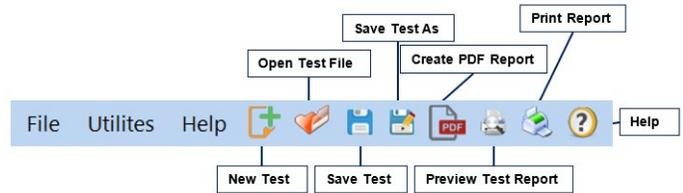

Figure 3: Toolbar
3. Eject the USB containing installation files and insert the USB security key. Open the Direct/Residual Shear Data Acquisition Software. Click **Help** along the toolbar (Figure 3) then select **Activation** from the drop-down menu. Enter the provided license number, USB ID, and activation code. The software will run normally for 30 days before this information is required to continue use. Activation information can be entered at any point within the first 30 days after installation.
The top toolbar (Figure 3) consists of icons used to start, open, save and create test reports. These commands are also listed under the **File** dropdown menu.